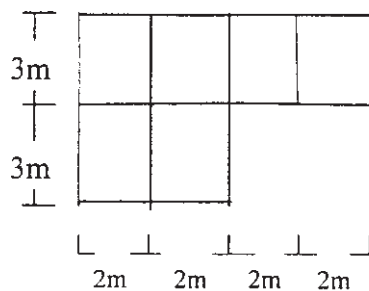

Figure 5.1
**Q5)** Determine the design eccentricity in X-direction for a three storey building as shown in Figure 5.1. The total seismic weight / floor = 450 kN. The column size = 400mm × 600 mm. Assume grade of concrete = M25. [18]